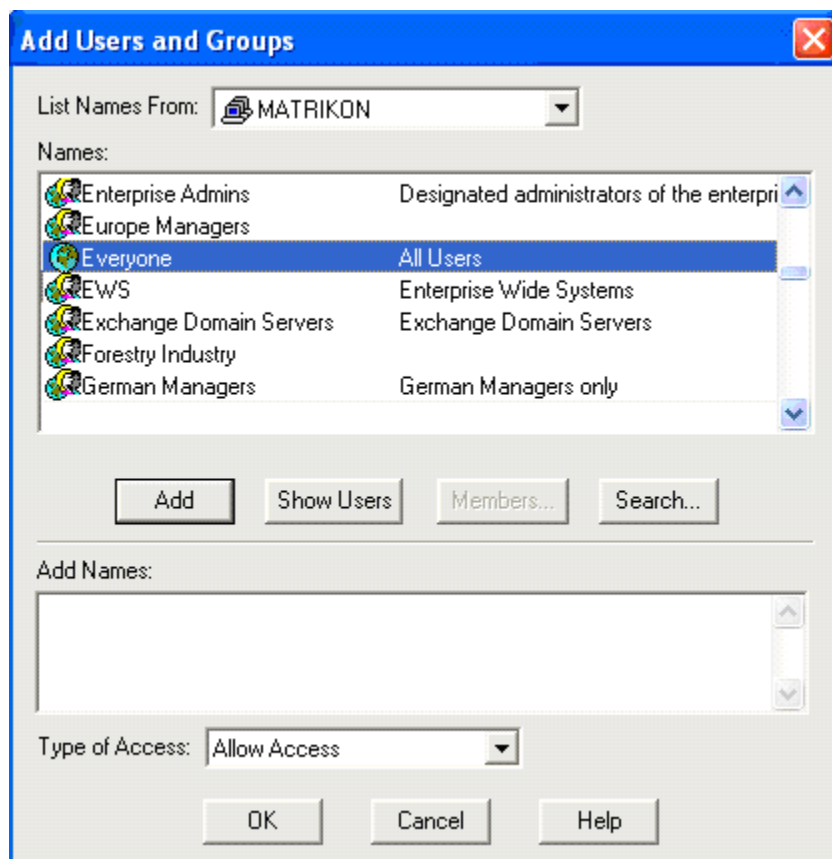

Figure 42 - Add Users and Groups Window
10. The **Add Users and Groups** window (Figure 42) appears.